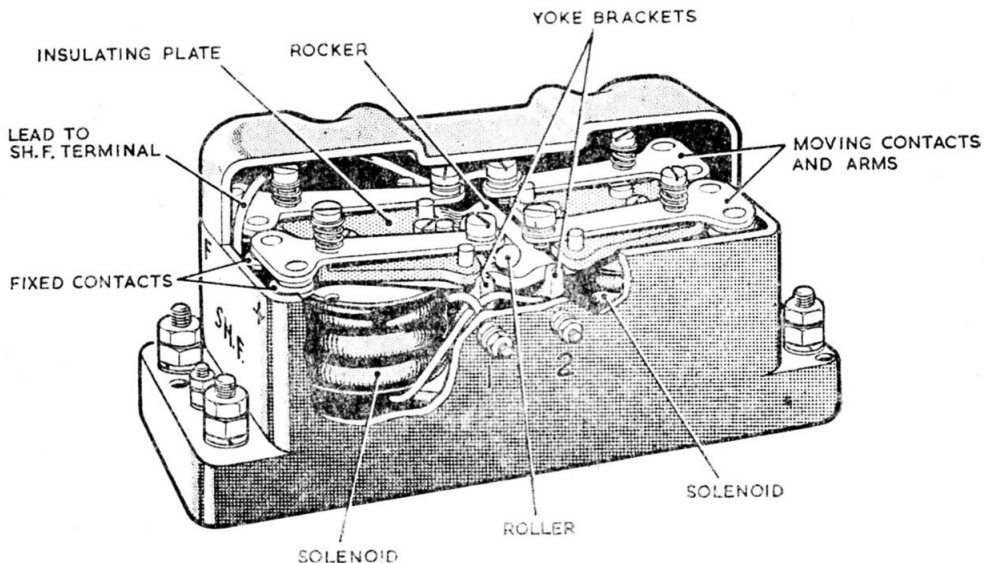

Fig. 1. Reversing switch, Type D5101 (part section)
2. Two separately excited solenoid coils (fig. 1) are secured in yoke brackets to the base of a Bakelite box. The moving contacts assemblies for each solenoid are carried on a common rocker positioned above the coils and protected by a recessed lid secured by four captive screws.
4. The moving contact arms (fig. 1) are secured by a spring loaded screw to an insulating plate, this plate being rigidly attached to the rocker by three screws. An additional screw at the end of each contact arm allows for connections to be made to the arms themselves.